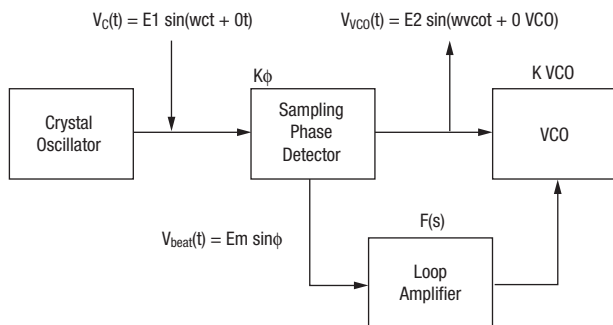

Figure 1.
The sampling phase detector used in phase lock of a VCO operating by the theory of principles of feedback control systems is shown in Figure 1.
3. Series pair Schottky diodes: The series pair Schottky diodes in the sampling phase detector are used to detect the errors between the microwave VCO frequency and the crystal reference. The Schottky diodes are turned on and off by the gated capacitor. When turned on, a sample of microwave frequency is compared with the switch frequency. An error frequency proportional to the differences will be generated as an error signal output or beat note. This error signal will be processed through the loop amplifier for phase lock (refer to figure 1). The crucial parameter on the Schottky diodes is the balance between the series pair, especially over temperature. Also, the drive level of the microwave signal sometimes requires medium or high-level Schottky diodes instead of the normal low-level diodes. The drive level should be proportional to the diodes used. Any underdrive results in temperature and unit-to-unit variation. Excessive overdrive will result in increased noise floor. Therefore, the diodes should be selected based on the operation parameter design for them. Skyworks has a variety of sampling phase detectors for all applications.